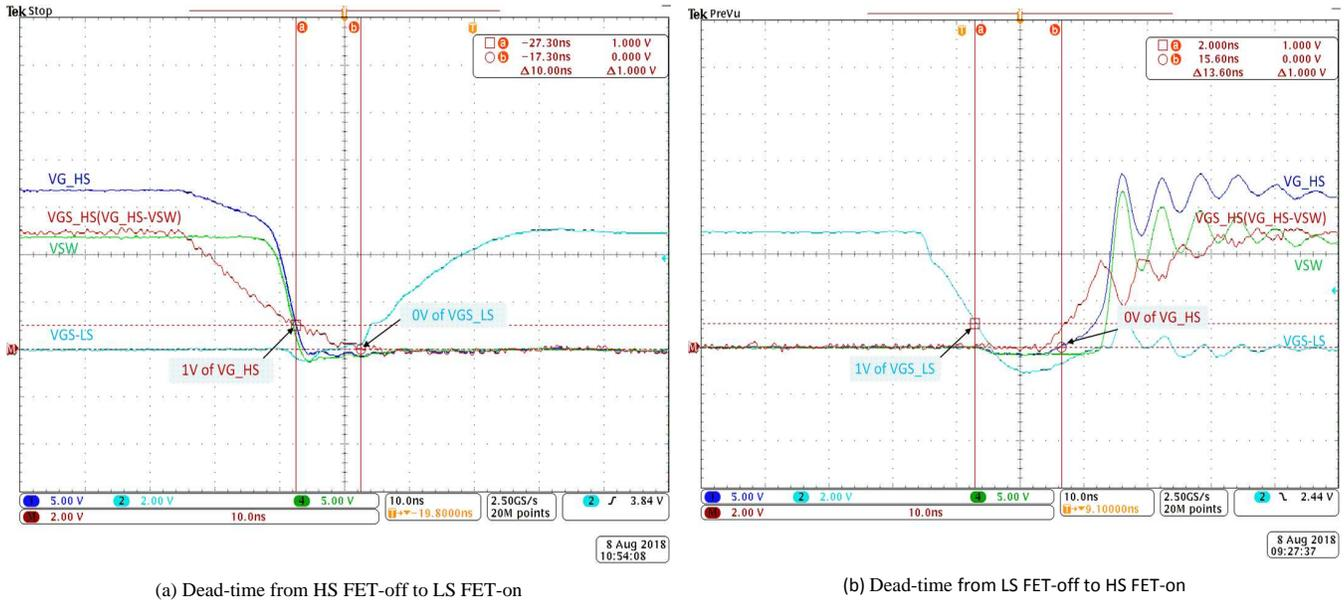

Figure 8. Dead-time Measurement Follows Design
1. Cursors locate at detection threshold of HS FET and LS FET, Dead-time measurement follows design, from HS FET-off to LS FET-on is 10 ns and from LS FET-off to HS FET-on is 13.6 ns. (See Figure 8 )